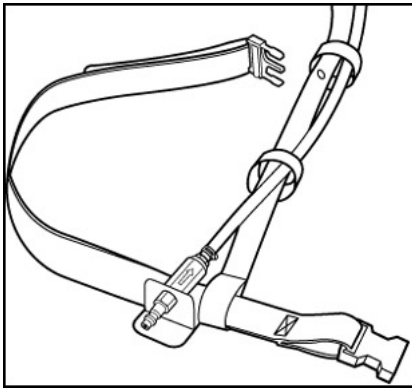

Fig. 4
7. Snap the W-3188 breathing tube into the three breathing tube holder loops on the shoulder strap. (Fig.4)
8. Place the air regulating valve onto the belt just to the left (as pictured) of the shoulder strap sewn strap loop. (Fig. 4) This will limit the shoulder strap harness from sliding around towards the middle of the back. Connect the W-3188 breathing tube to the air regulating valve. Assure the connection is tight and secure.